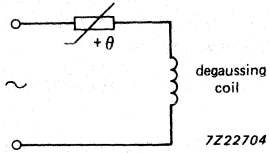

Fig.26 Mono PTC.
- A single PTC in series with the degaussing coil (see Fig.26). This is known as a MONO degaussing PTC.